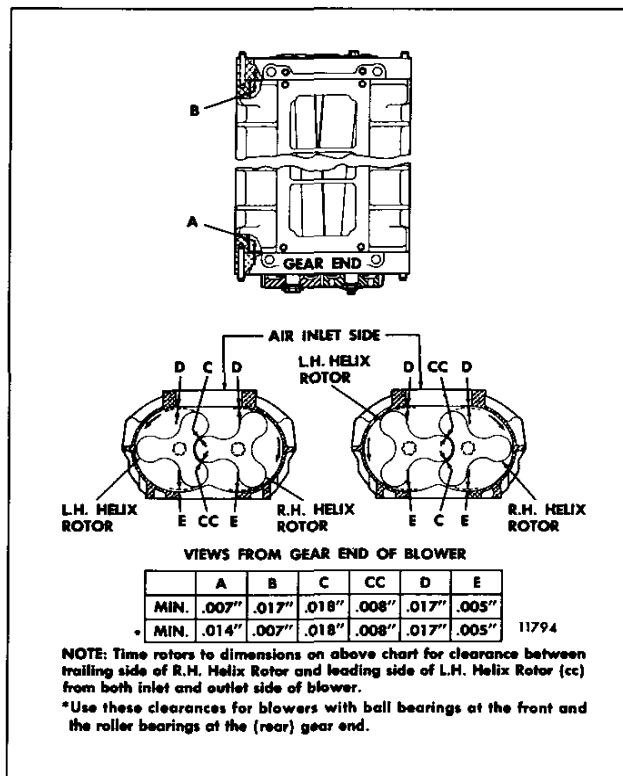
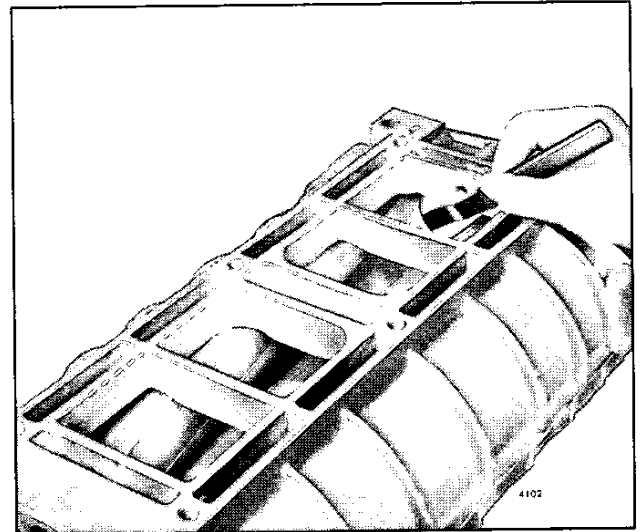

Fig. 19 – Chart of Minimum Blower Clearances
Fig. 21 – Measuring End Clearance Between Blower Rotors and End Plate
11. Place the blower assembly on a bench and make a preliminary check of the rotor-to-end plate and rotor-to-housing clearances at this time with a feeler gage as shown in Fig. 21. Refer to Fig. 19 for minimum blower clearances.
8. Determine the minimum clearances at points "A" and "B" shown in Fig. 19. Insert the feeler gages, as shown in Fig. 21, between the end plates and the ends of the rotors. This operation must be performed at the ends of each lobe, making 12 measurements in all. Refer to Fig. 19 for the minimum clearances.
9. Check the clearance between each rotor lobe and the blower housing at both the inlet and outlet side — 12 measurements in all. Refer to Fig. 19 for the minimum clearances.